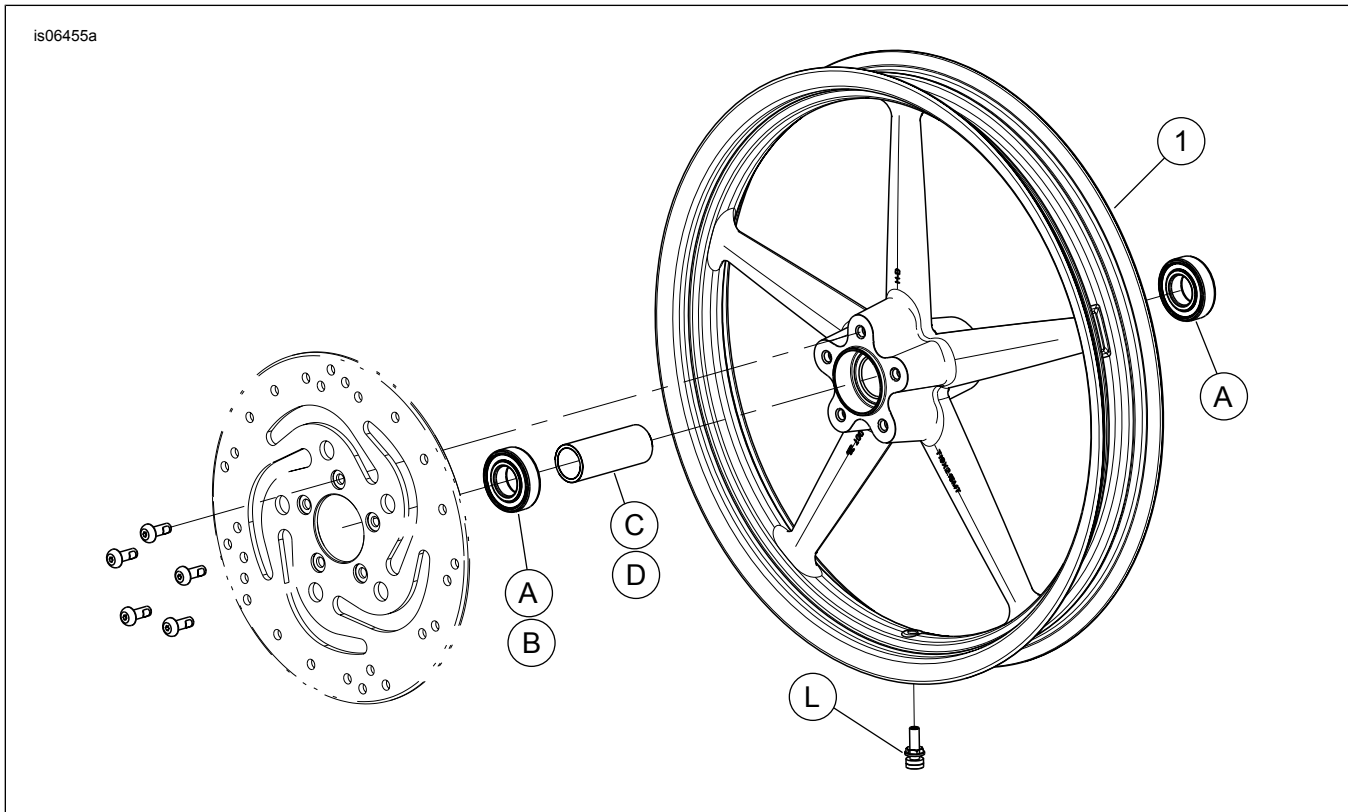

Figure 2. Service Parts: Front Rocker Wheel
2. See Figure 2. Install valve stem assembly (L) on wheel. Refer to TIRES in service manual.